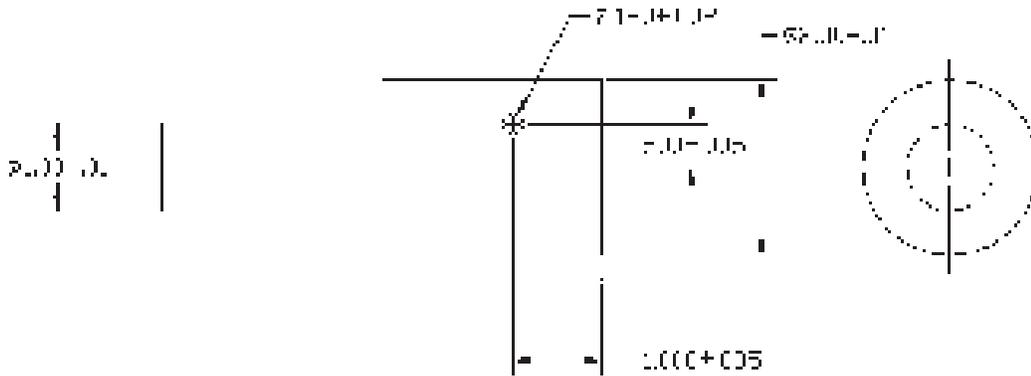
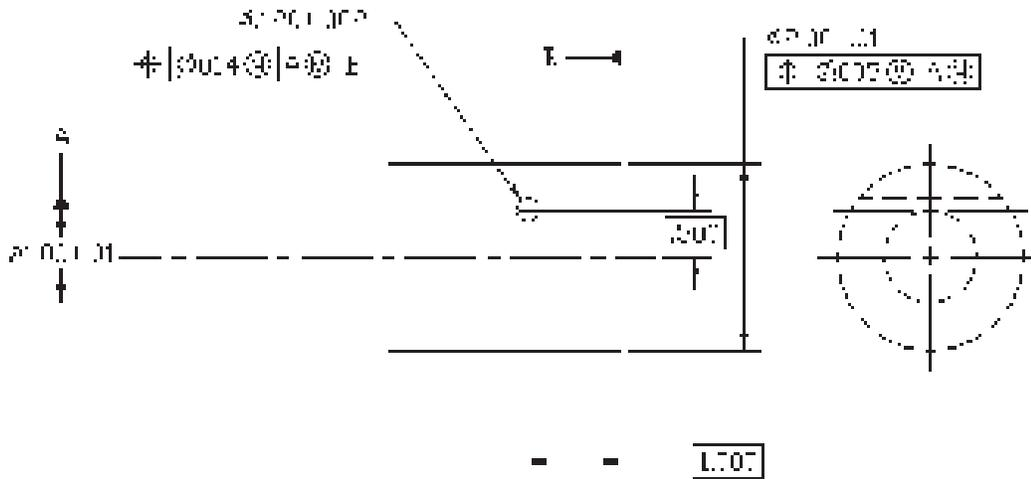
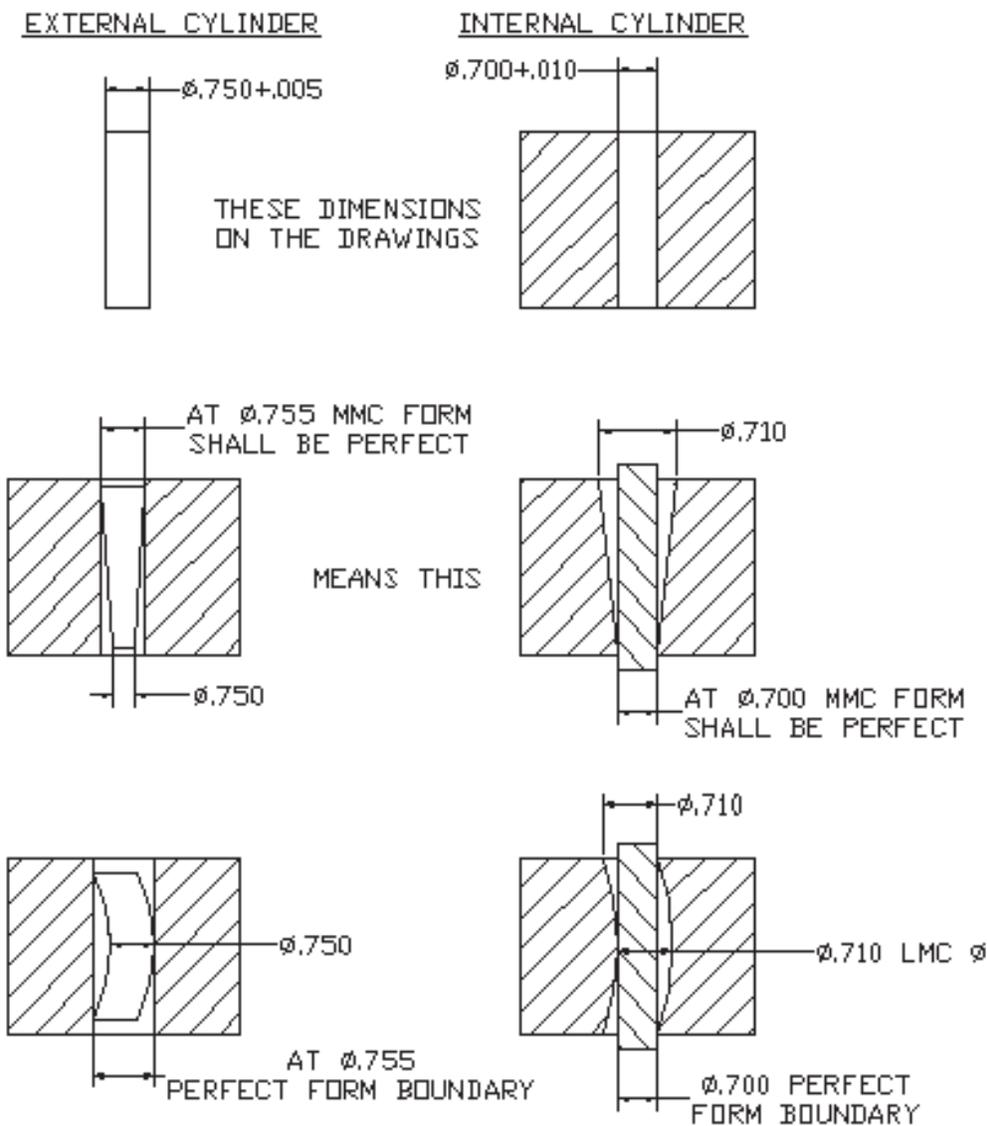

Fig. 5-1 "OLD" Drawing without GD&T.
Fig. 5-2 "NEW" Drawing with GD&T.
Fig. 5-8 Rule #1.
- b. It eliminates ambiguities as to what Datum features are to be contacted to establish the Datum planes and/or Datum axis that are to be used for locating other features. All inspection will result in the same result - the dimension is within or out of tolerance. Fig. 5-1 illustrates a simple example of ambiguities associated with the "old" type drawing. Fig. 5-2 illustrates the same example with GD&T.
## Questions asked in Fig. 5-1 answered:
- 2) The  $\varnothing 1.00$  is the feature to be used for measuring the  $.500$  dimension for locating the  $\varnothing 1.20$  hole. The tolerance for locating the  $\varnothing 1.20$  hole is a  $\varnothing$  of  $.014$  (the diagonal of the rectangular tolerance zone shown in Fig. 5-1) when the hole is a MMC ( $\varnothing 1.20$ ).
When only a size tolerance is specified for an individual feature of size the form of this feature shall not extend beyond a boundary (envelope) of perfect form at maximum material condition (MMC). In other words when the size is at MMC the feature has to be perfectly straight. If the actual size is less than the MMC the variation in form allowed is equal to the difference between the MMC and the actual size. The relationship between individual features is not controlled by size limits. Features shown perpendicular, coaxial or symmetrical to each other must be controlled for location or orientation otherwise the drawing is incomplete. In other words Fig. 5-1 is an incomplete drawing. Fig. 5-8 shows the meaning of Rule #1 for an external cylinder (pin or shaft) and an internal cylinder (hole). Note that a hard gage can be used to inspect this principle or requirement.